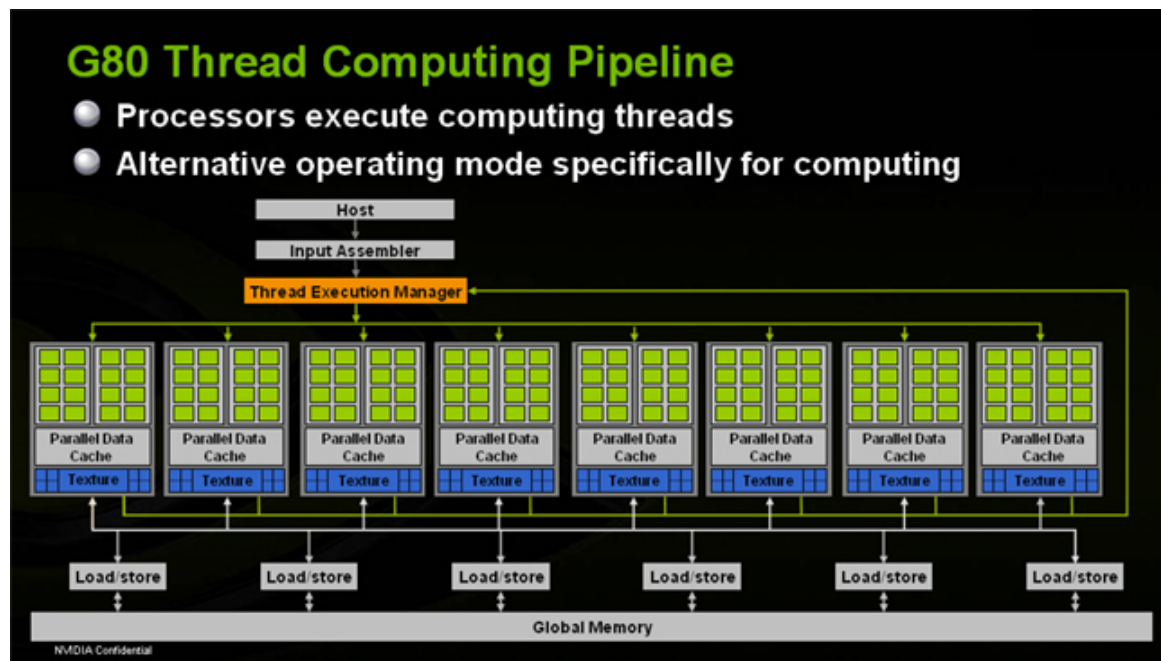

Figure 9. CUDA thread computing pipeline
- ❑ Use of GPU resources in a different manner than graphics processing as seen in Figure 9, but both CUDA threads and graphics threads can run on the GPU concurrently if desired.